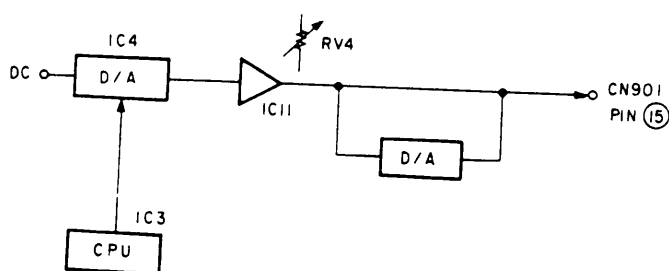

Fig. 3-12 H. SIZE correction block
The signal according to the horizontal oscillation frequency is output by the CPU (IC3) control from pin ③ of IC4 (D/A). The maximum value of this voltage is limited by RV4. This signal is the reference signal, it is input to IC10 (D/A), adjusting the voltage with the CPU (IC3) signal. After being added this voltage to the above voltage, and it sent out to the D4 board as the H. SIZE correction voltage from pin ⑮ of connector CN901. The block diagram of H. SIZE correction waveform circuit is as shown in Fig. 3-12.